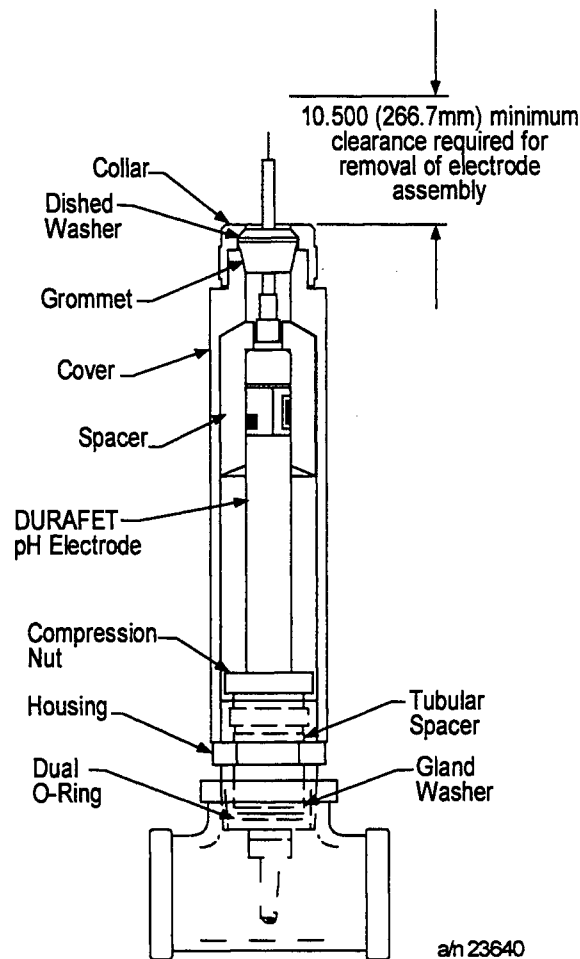

Figure 3-2. Cutaway View of Assembled Mounting (3/4" pipe tee shown is not included with mounting)
As shown in Figure 3-2, each electrode mounting consists of several parts. The electrode is supported in the pipe or tee by a housing consisting of a special 3/4" NPT bushing and threaded cover. It is sealed by means of the plastic knurled compression nut, tubular spacer, O-ring washer, and dual O-ring. The grommet serves to seal the electrode's leadwire. A second plastic spacer is furnished with each mounting to permit greater electrode extension, required when the pipe line is 2" or larger. A spare dual O-ring and O-ring washer are supplied with each mounting.
1. After the mounting bushing is installed in the pipe line, insert one of the dual O-rings in the seat in the bushing and place one of the polypropylene washers and the tubular spacer over it. Mount the knurled plastic compression nut but do not tighten it and do not compress the O-ring. Refer to Figures 3-2 or 3-3, which illustrate the assembled mounting. The internal parts of the mounting arranged in order of assembly are shown in Figures. 3-2 and 3-3 for Durafet electrodes and separate reference electrodes respectively.
2. Next lower the cover over the electrode, making sure all spacers are properly in place; see Figure 3-2 or 3-4. Gently push the electrode down into the mounting. Screw the cover down, then remove it again. The Durafet Electrode should now be in the proper position. Check orientation of the sensor surface with respect to flow. See "Electrode Preparation" in Manual 70-82-25-63. Tighten the knurled compression nut by hand.